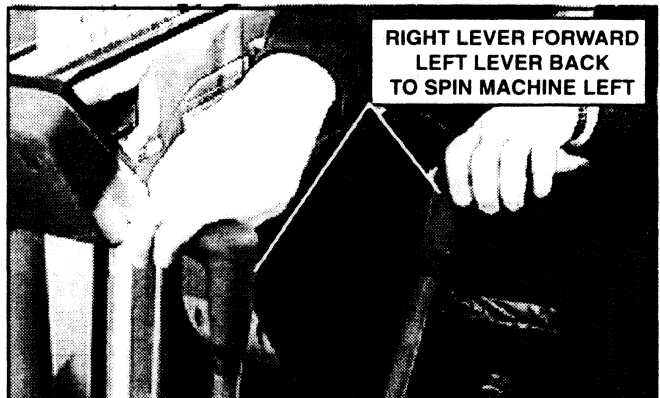

FIGURE 3.28
- a. Pull L.H. Travel Lever BACK and Push R.H. Travel Lever FORWARD to spin machine to the LEFT. See Figure 3.28.